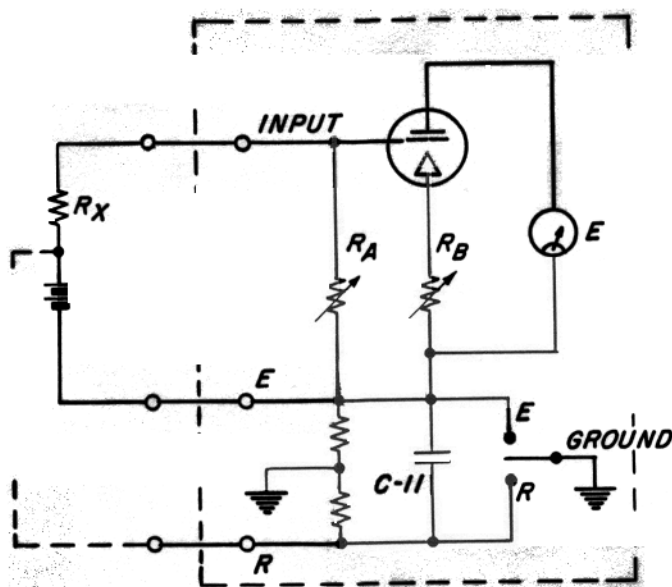

Figure 6. Resistance Measurement with External D-C Supply.
4.5.1 CONDITIONS OF MEASUREMENT. The external supply must be either batteries or a stabilized line-operated supply. See Figure 6.
If the unknown resistance need not be grounded, the voltage of the external supply is not limited by the amplifier design. If the unknown must be grounded, the voltage of the external supply is limited to the 600-volt rating of C11 (Figure 6), a capacitor in the instrument. The unknown resistance must be capable of withstanding the full voltage of the supply.
b. Set the GROUND switch to R if the unknown is to be grounded, to E if the unknown is not to be grounded. In either case, note from Figure 6 that the external supply will be grounded. If the unknown resistance is grounded, instrument leakage from input to ground (about 10^{14} ohms) will be across the unknown and therefore may affect the final reading. The actual leakage value can be determined from a preliminary measurement with the unknown resistance disconnected.